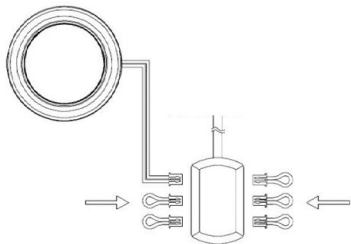

Fig. 5
- Connect the lamp to the 6-way hub (see Fig. 5)